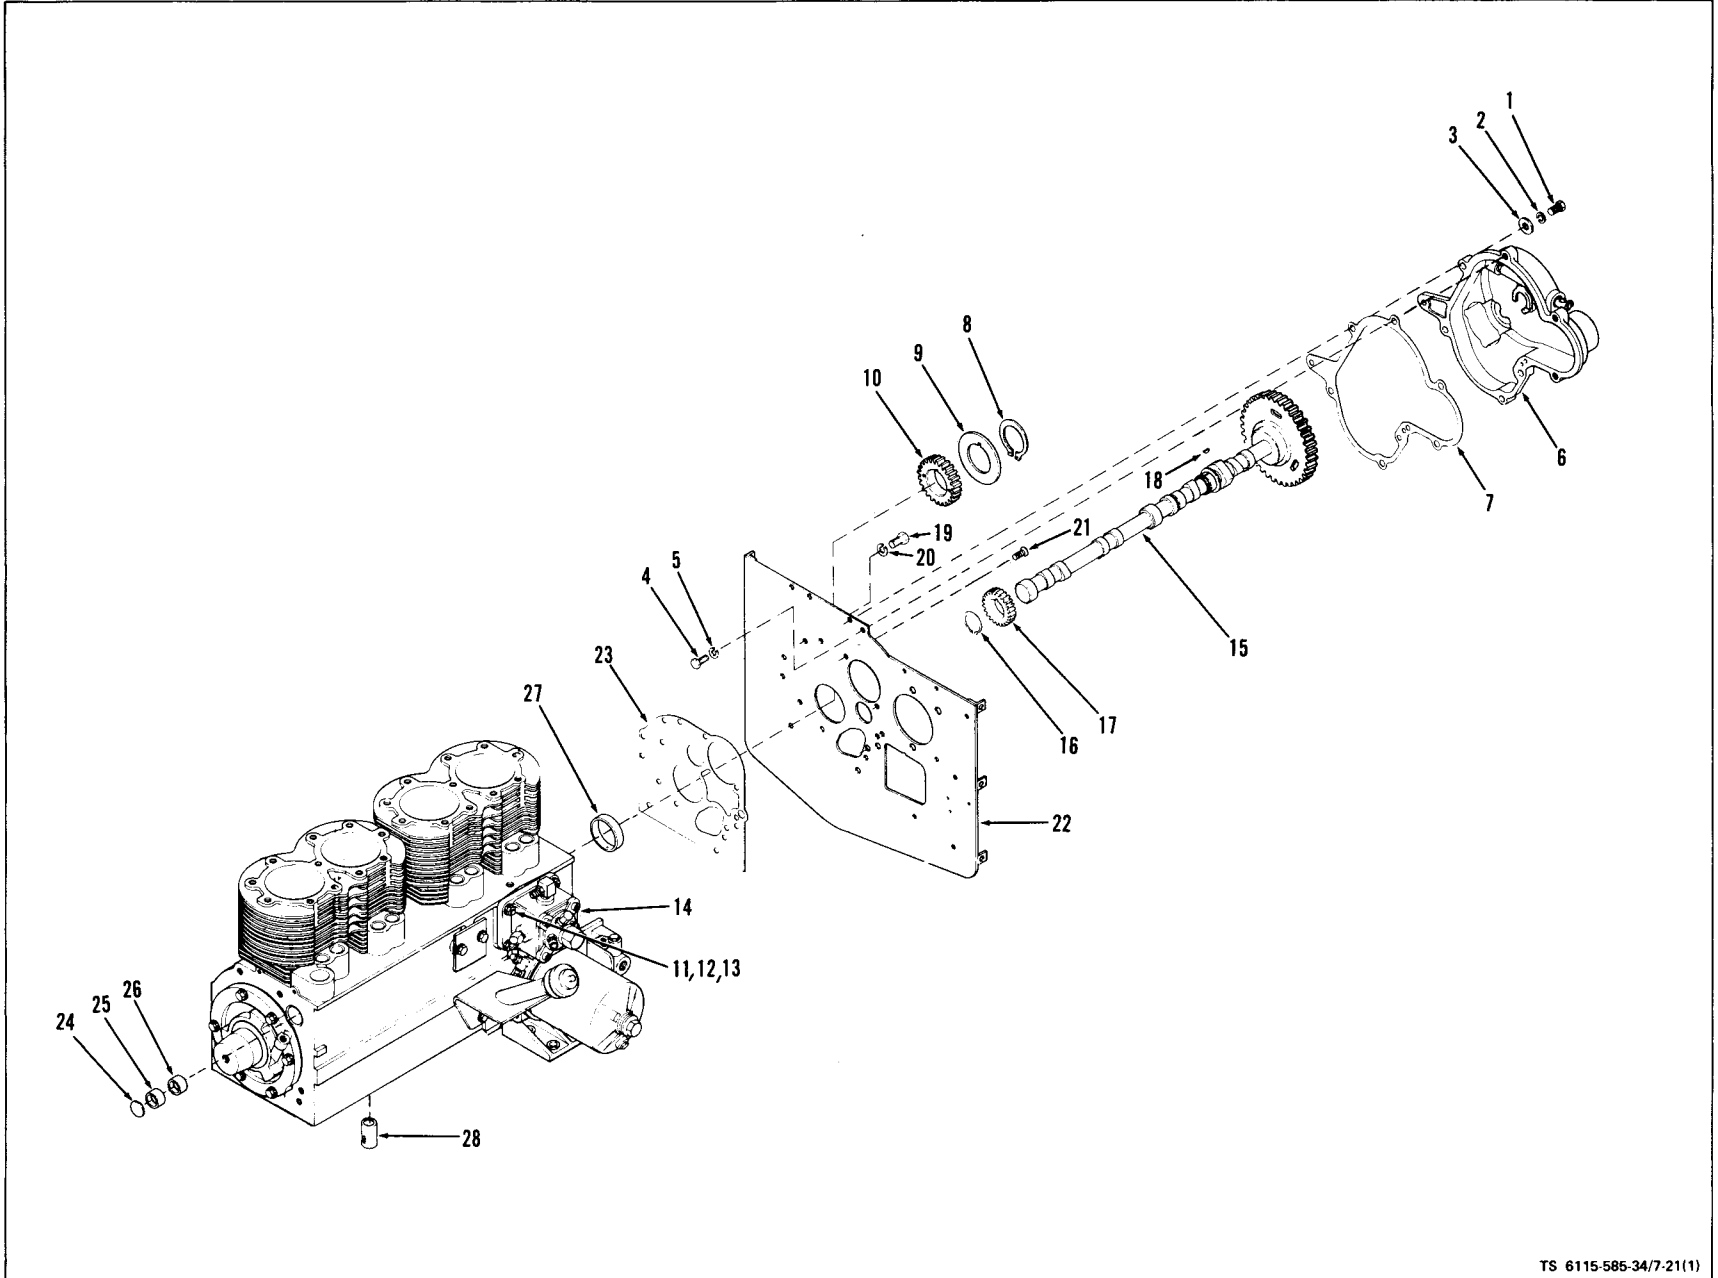

Figure 7-21. Internal Engine Assembly (Sheet 1 of 2)
- (2) Refer to Operator and Organizational Maintenance Manual and remove blower housing.
- (3) Refer to paragraphs 7-7 and 7-8 and remove blower wheel and stator.
- (4) Remove screw from oil filter adapter. Remove screws (1, figure 7-21), lockwasher (2), flat-washer (3), screw (4), lockwasher (5) holding gear